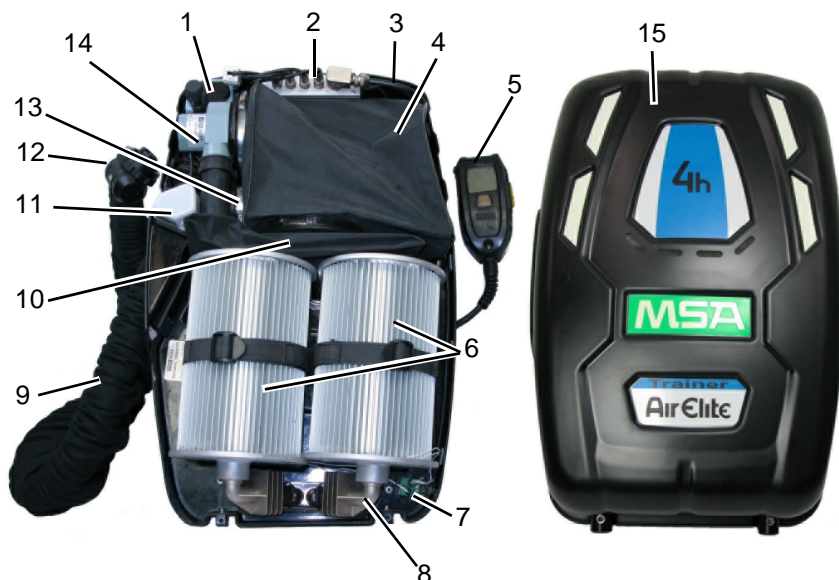

Fig. 1 Overview
To convert an AirElite 4h into a training device, the KO2-Trainer canister set (Fig. 1, pos. 6) and the KO2-Trainer housing cover (Fig. 1, pos. 15) are required.
The training device contains two trainer canisters (Fig. 1, pos. 6) connected in parallel. These canisters contain potassium hyperoxide required for regenerating the breathing air. The trainer canisters can only be used once and have to be disposed of in accordance with local legislation after use.